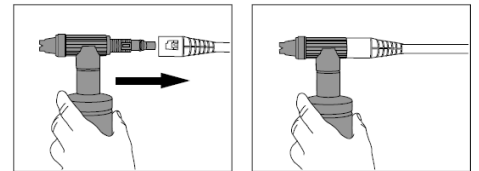

Figure 8 - Attach applicator to gun
4. Attach detergent applicator to gun. ( See Figure 8)